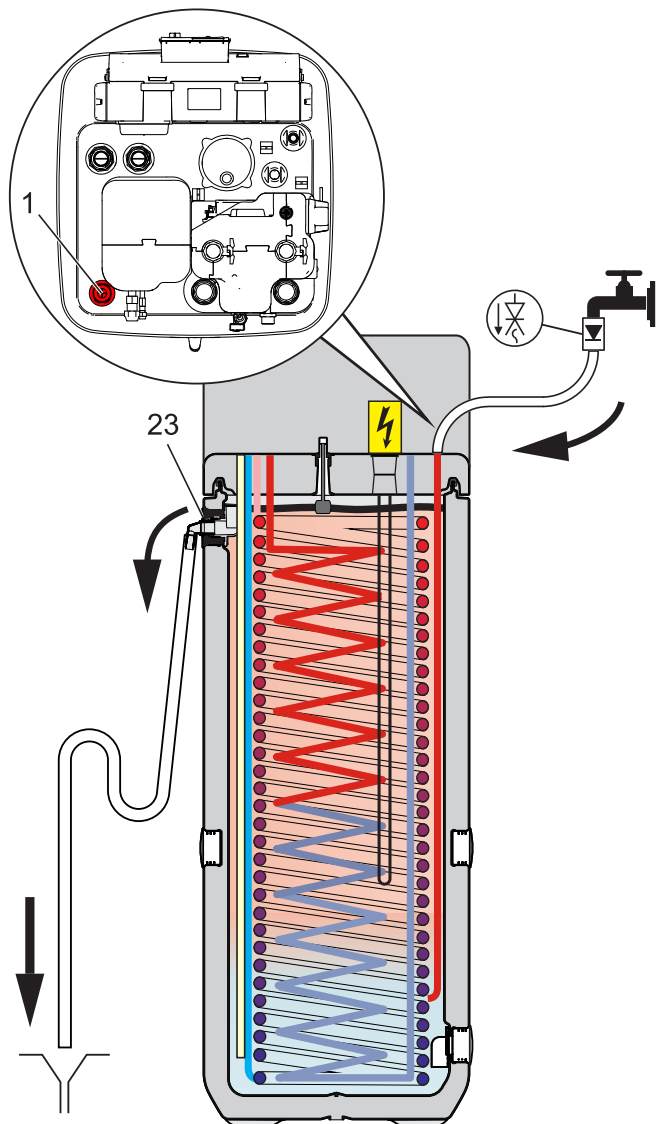

Fig. 7-1 Filling the buffer tank - without connected DrainBack solar system
- 1 Connect the **filling hose** with non-return valve (1/2") to the **"Solar - inflow"** connection (Fig. 7-1, item 1).
- 2 **Fill** the storage tank of the Daikin Altherma EHS(X/H) **until water escapes from the overflow connection** (Fig. 7-1, item 23).
- 3 Fill the storage tank of the Daikin Altherma EHS(X/H) **until water escapes from the overflow connection** (Fig. 7-1, item 23).